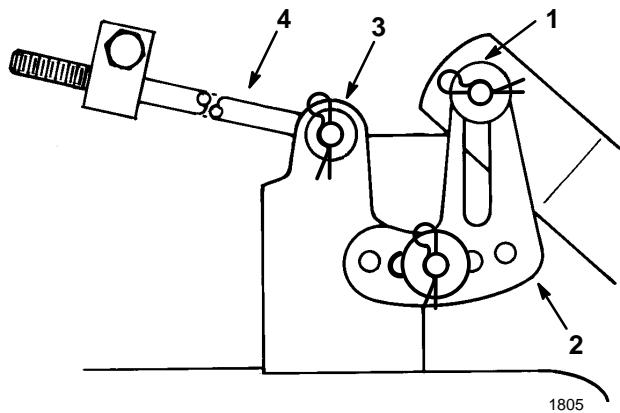

Figure 35
8. Remove the hair pin cotter and washer at the top of the mower leveling bracket (Fig. 35). Now slide the bracket off the mounting pin. Repeat this step on the opposite side of the mower.
9. Remove the hair pin cotter and washer from the end of the long rod (Fig. 35). Now slide the rod out of the mower mount. Repeat this step on the opposite side of the mower.